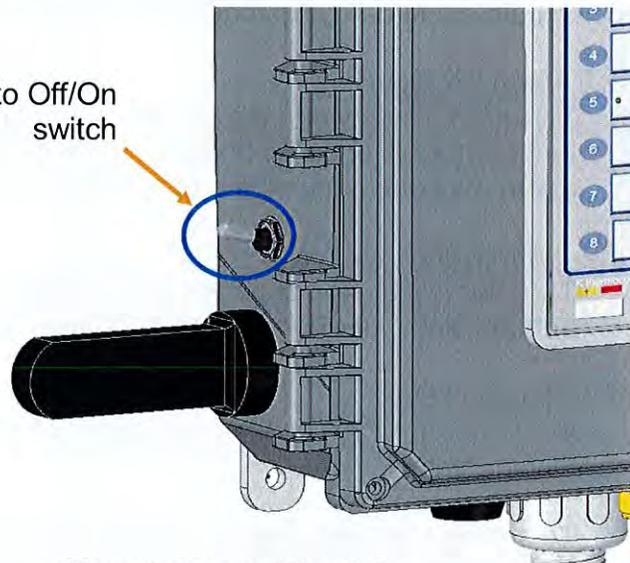

Figure 6. Auto On/Off switch.
3.1. Auto On/Off switch see figure 6. The pyrometer can operate in two modes: